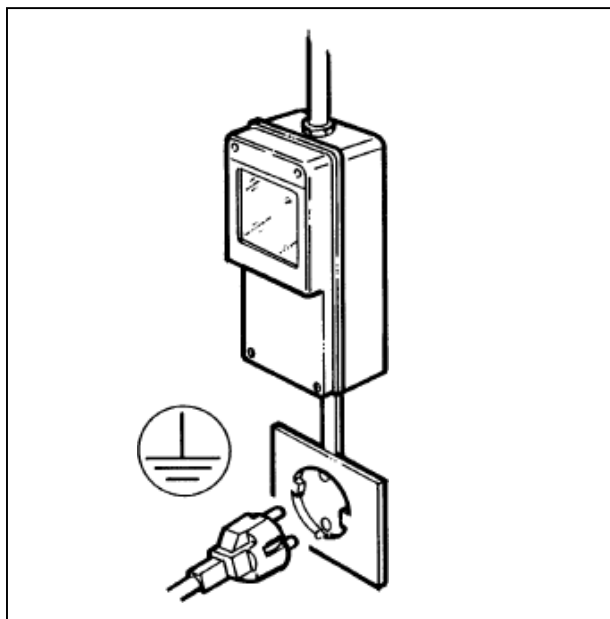

Fig. 3
-The machine's electrical safety is only guaranteed when it is connected to a suitable earth system, structured as provided by the national safety current regulations (fig.3). Therefore, the manufacturer cannot be held responsible for any damage due to failure of the grounding system of the machine.
- For a safe and correct installation, it is essential to provide a suitable socket controlled by a thermal cut-out switch whose contacts are at least 3 mm apart, in accordance with the current national safety regulations (see fig.3).